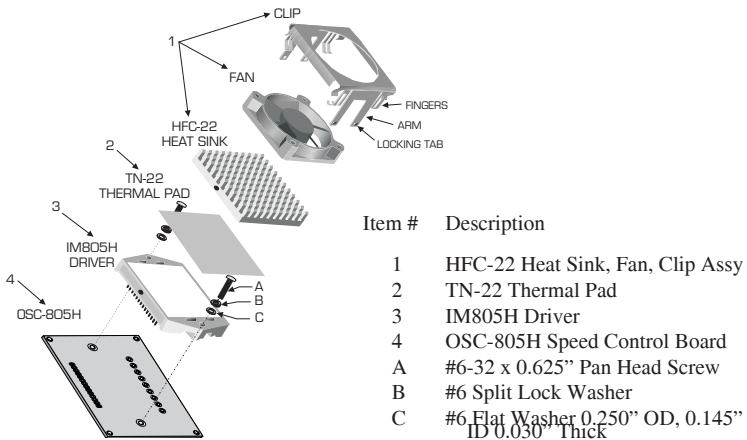

Figure 2.1.1: HFC-22 Heat Sink, Fan and Clip for IM805H/OSC805H Assembly
The recommended cooling solution for the OSC-805H/IM805H assembly is the HFC-22 heat sink/fan/clip assembly (See item 1 in Figure 2.1.1). The heat sink and fan components of the HFC-22 are easily mounted to the IM805H by means of an innovative clip design.